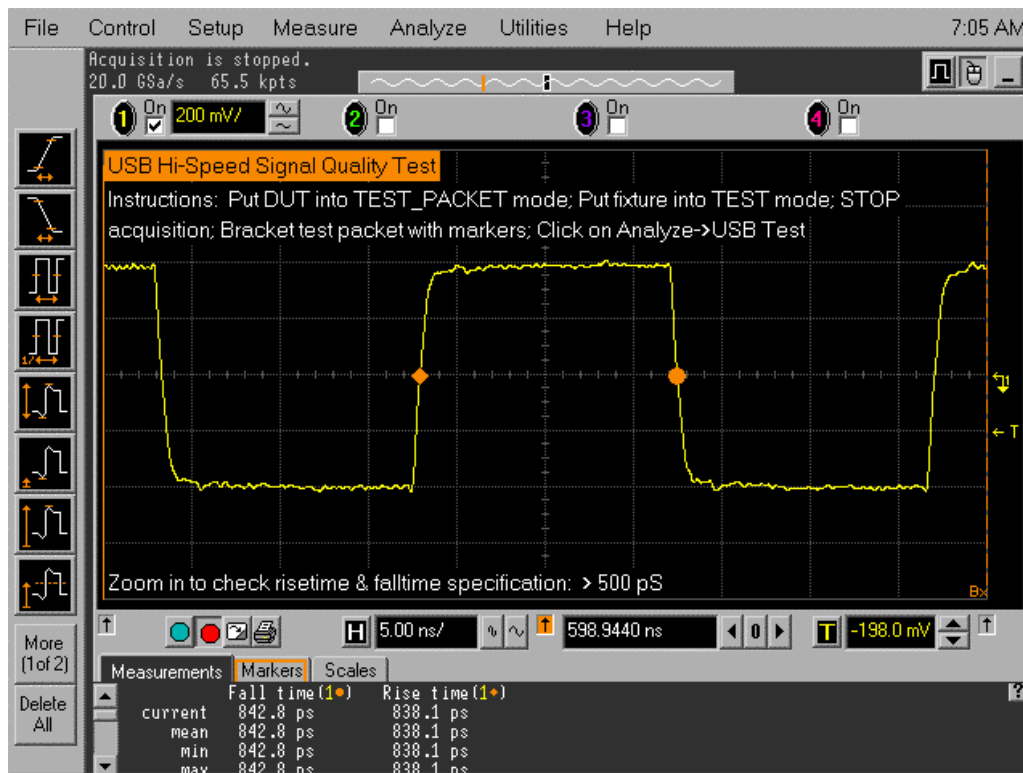

Figure 9: Rise and fall time measurement
21. Using the Horizontal knob on the oscilloscope, zoom in and check that the rise and fall times are > 500us, as shown in Figure 9